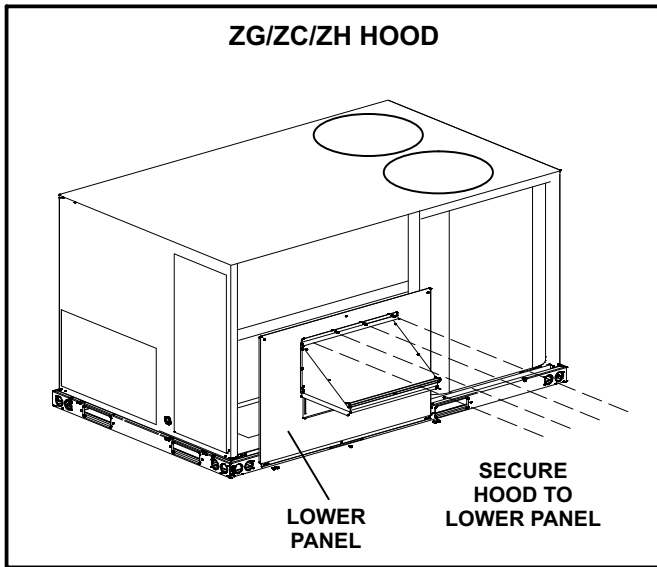

FIGURE 8
Align four holes in top seal with holes above opening in lower panel. Secure with sheet metal screws. See figure 8.
- 4- Secure hood left side to the hood top and to the cabinet using the provided screws. See figure 8.